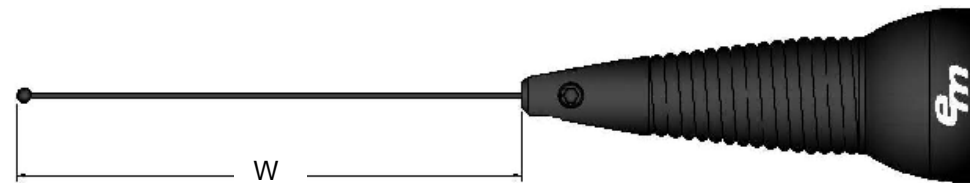

Figure 4
2. **Note:** The tuned length "W" is determined by measuring the distance between the top of the whip adapter and the top of the whip. **See Figure 4.** Tuned dimension "W" does not specify the total length of the whip when detached from the whip adapter. Total length of whip is approximately 1.5" (38mm) longer than "W" and must be added to the tuned dimension "W", when cutting the whip.
5. Cut the whip length required to establish the specified tuning length "W" as shown in Figure 4.